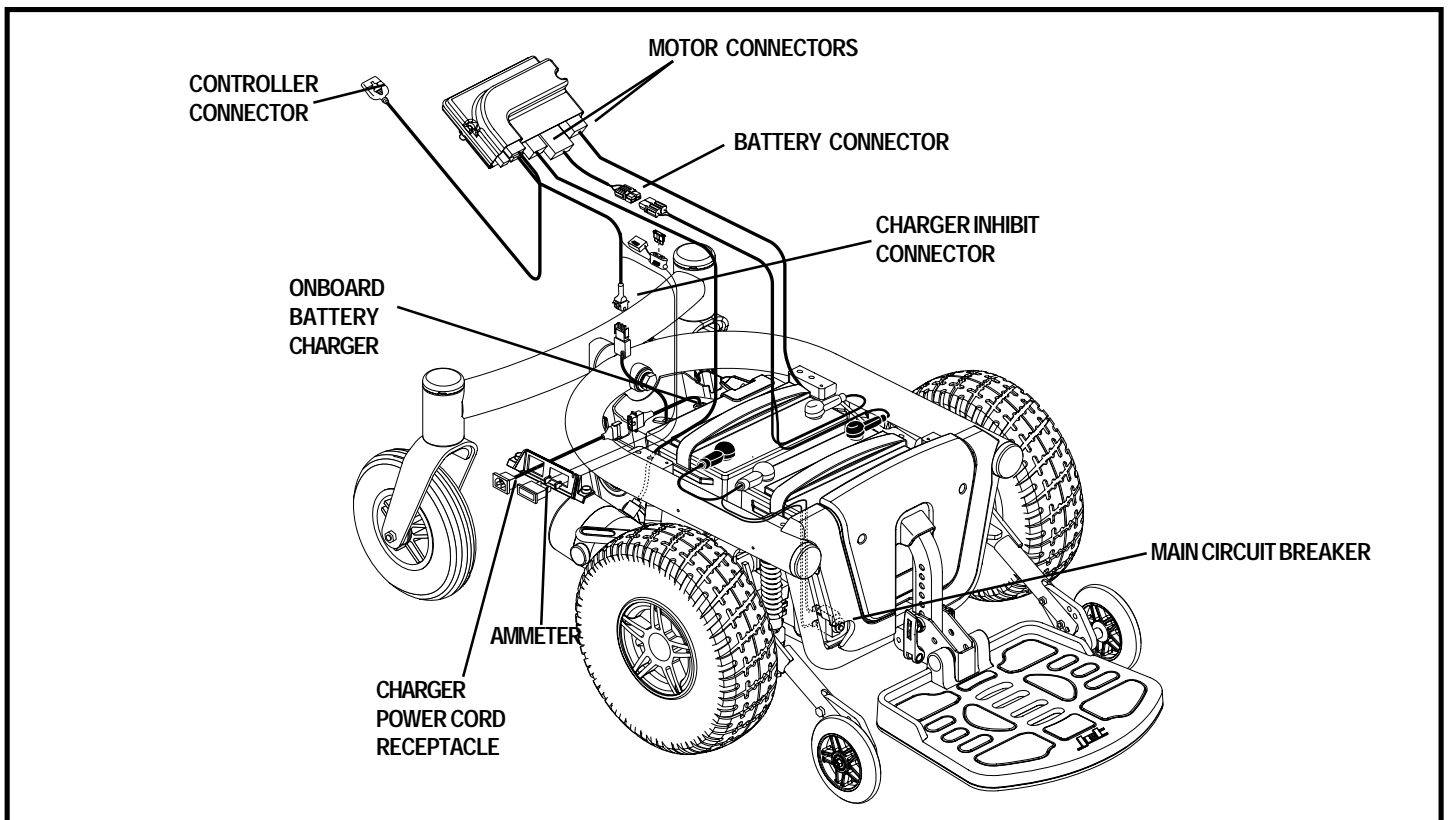

Figure 7. Jet 3 Ultra Electrical Components
The electrical components are located on the power base. The ammeter and the charger power cord receptacle are located on the right side of the power base. The main circuit breaker is located on the front of the battery tray. The controller connector and the motor connectors are located on the power pod, inside the power base. See figure 7.
8. Plug the motor connectors, the charger inhibit connector, and the battery connector into the power pod. See figure 7.
2. Unplug the controller connectors from the power pod. See figure 7.